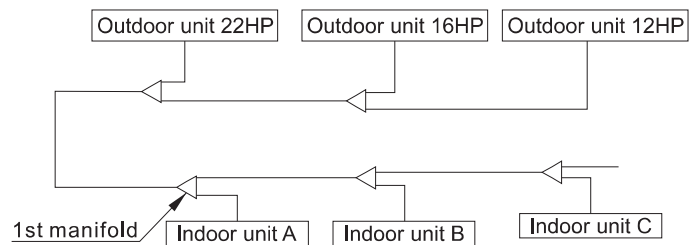

Fig. 3.8 Sequence of outdoor unit
1) When installation, a maintenance space as shown in Fig.3.8 shall be left, the power supply device shall be installed at the side of the outdoor unit as per the method shown in the installation manual for the power supply unit.